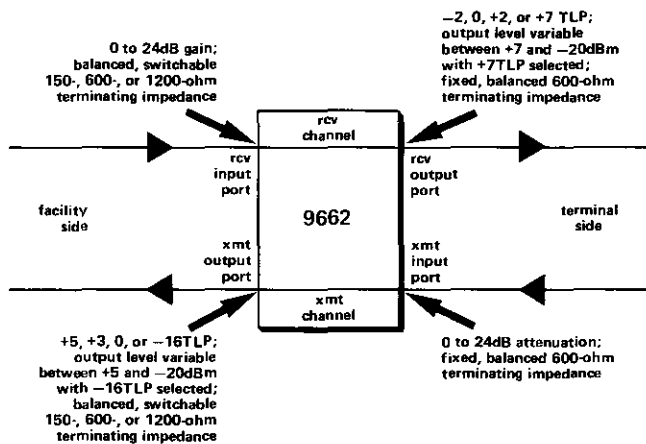

figure 4. Facility-side and terminal-side interfaces
**2.05** If transmit output and receive input levels other than those available via the 9662's TLP-selection switches are required, these levels can be provided through the use of printed-circuit-board potentiometers associated with the TLP-selection switches. With the receive TLP switch set for a +7 TLP, the receive output level is variable between +7 and -20dBm with respect to a +7 TLP. With the transmit TLP switch set for a +5 TLP, the transmit output level is variable between +5 and -20dBm with respect to a -16 TLP. Figure 4 summarizes both level-control and terminating-impedance selections at all four of the module's ports. See paragraphs 3.09 through 3.11 for details on setting levels.